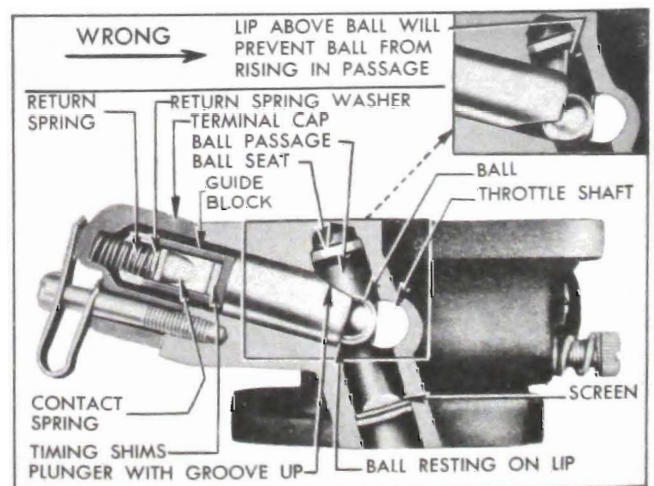

Figure 10-27—Assembly of Accelerator Vacuum Switch
1. Disconnect wires from terminals. Hold down on switch terminal cap while removing hold down clip. Remove terminal cap and return spring, then lift out switch guide block with contact spring and shims. Do not lose timing shims and the spring washer on contact spring. See figure 10-27.
9. Place plunger in position with the groove up so that the ball rests on lip at inner end of plunger. See figure 10-27. If the plunger is installed with groove down, the ball will be prevented from rising into the ball passage when the engine starts. As a result, the switch will
10. Make sure that all timing washers, contact spring, and the return spring washer are in proper position before installing the return spring and terminal cap. Make sure that terminal cap is properly seated. See figure 10-27.